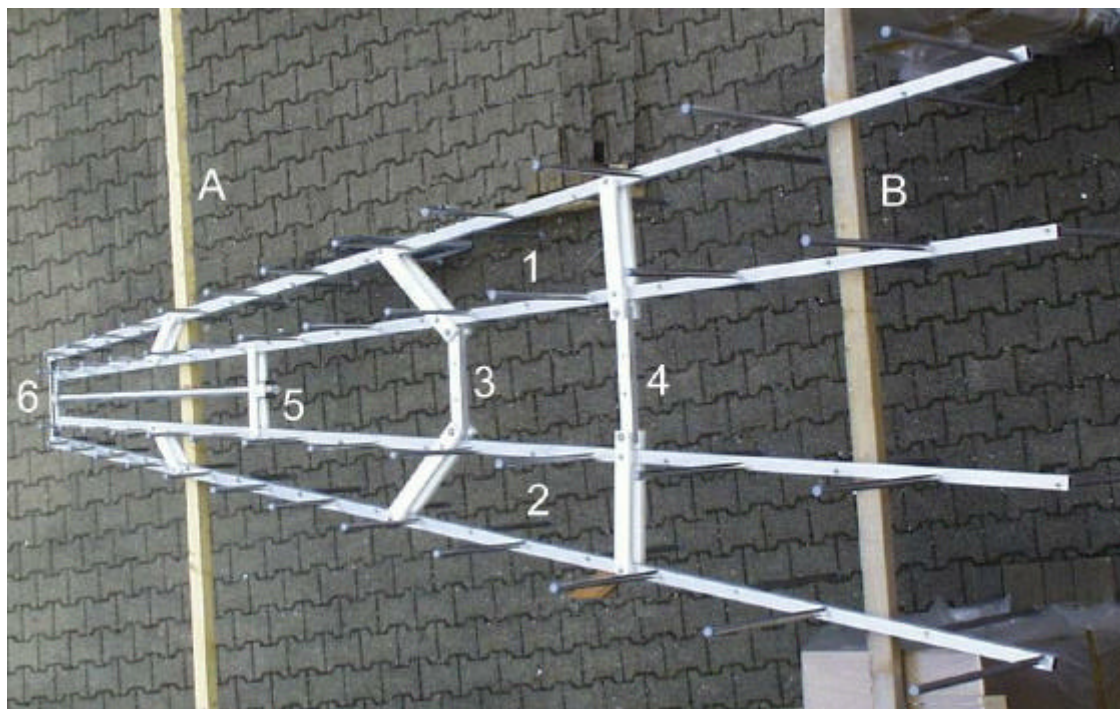

Figure 1: Top view on the LP-wings including the wooden support bars (part A and B) , the mounting bars (part 3 and 4) and the feed section (part 5 and 6)
Step 1: Both LP-wings are positioned onto the wooden support bars. The various drilled holes of the V-shaped LP-wings should face up or down. The feed section of one LP-wing should face towards the other LP-wings according to fig. 1. The mounting bars (part 3 and 4) are connected to the corresponding holes of the opposite part.